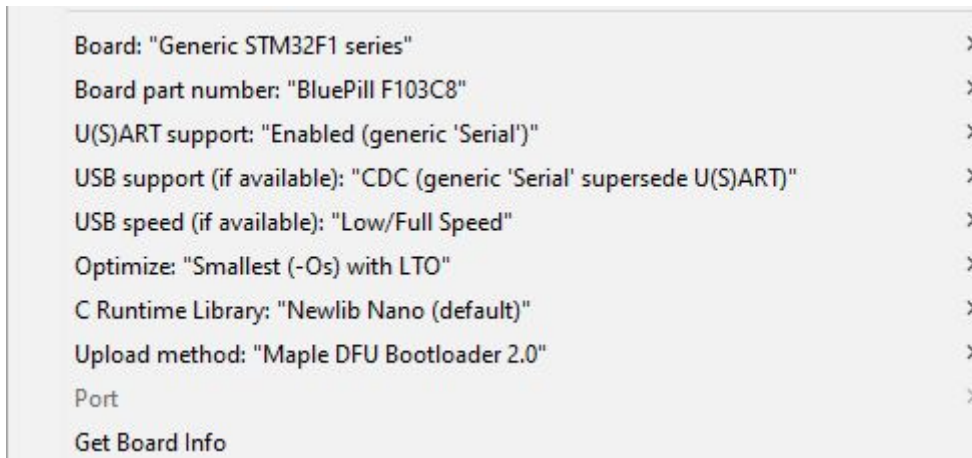

Figure 4.1.2b: Zigbee Tracker v2.0 Board Settings in Arduino IDE
5. Configure the board settings as shown in Figure 4.1.2b, and upload the code.
4. Configure the board settings as shown in Figure 4.1.2b, and upload the code.